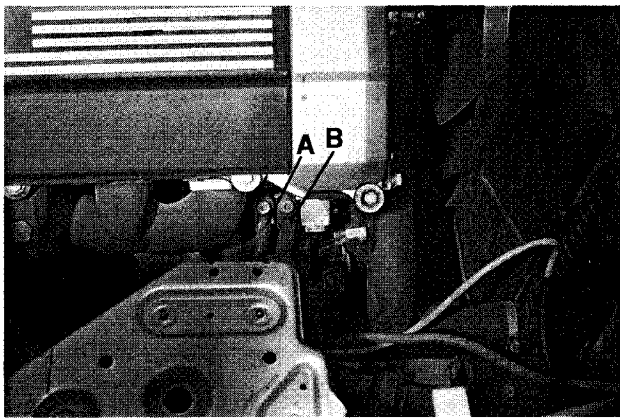

Fig. 37. A/C compressor pressure hose (A) and suction hose (B). (6-cylinder engine shown. 4-cylinder engine is similar.)
7. Remove A/C pressure hose and suction hose flange bolts from compressor. Plug hoses immediately. See Fig. 37.